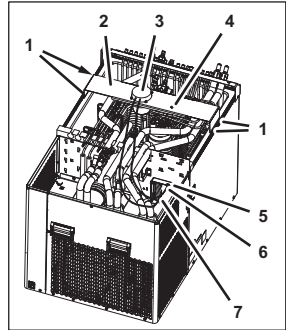

Figure 45
1. Disconnect the plugs (Figure 45/6 and 7) of the stirrer motor (Figure 45/3) from control system 1 (Figure 45/5).
2. Remove the fastening bolt (Figure 45/4) from the solenoid valve holder.
3. Remove the fastening bolts (Figure 45/1) from the stirrer motor mount (Figure 45/2).
4. Lift the stirrer motor mount (Figure 45/2) with stirrer motor (Figure 45/3) out of the unit.
12. Connect the plugs (Figure 45/6 and 7) of the stirrer motor (Figure 45/3) to control system 1 (Figure 45/5).